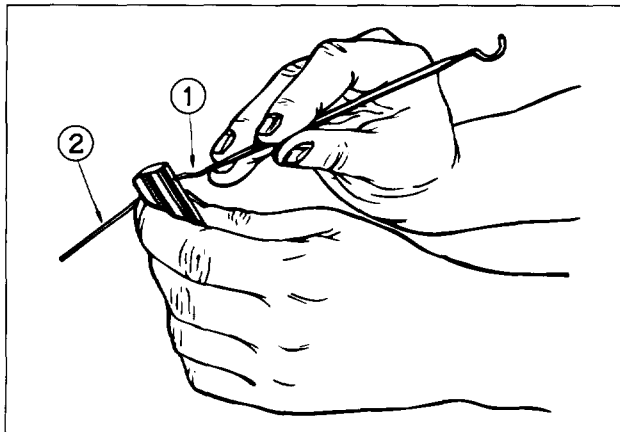

FIG. 3
5. Compress the master piston spring using a pick or probe. Insert a small diameter pin into the access hole and remove the probe (see Fig. 3).